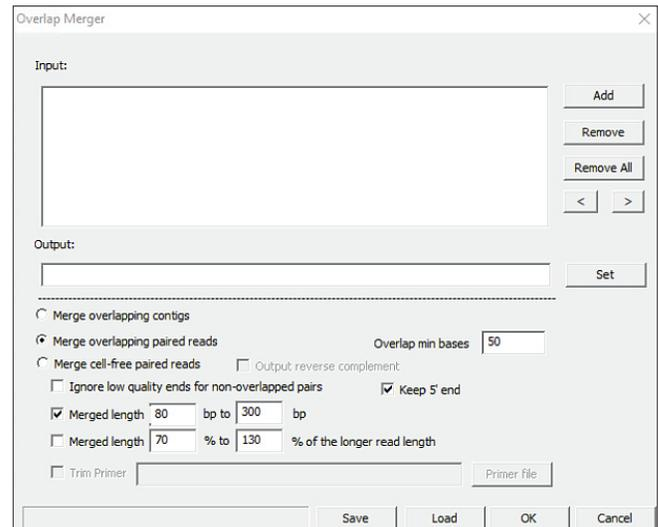

Figure 4. Recommended settings for the Overlap Merger
- 3 Either load the previously saved settings file by clicking Load or manually change the settings to those shown in Figure 4.